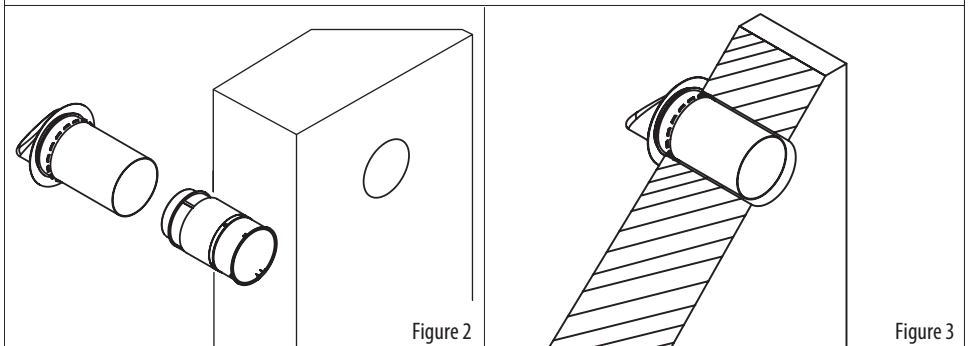

Figure 2
2. Assemble the inner duct and outer duct together, adapting to the thickness of the wall (Figure 2). The outer duct shall not exceed the wall thickness.